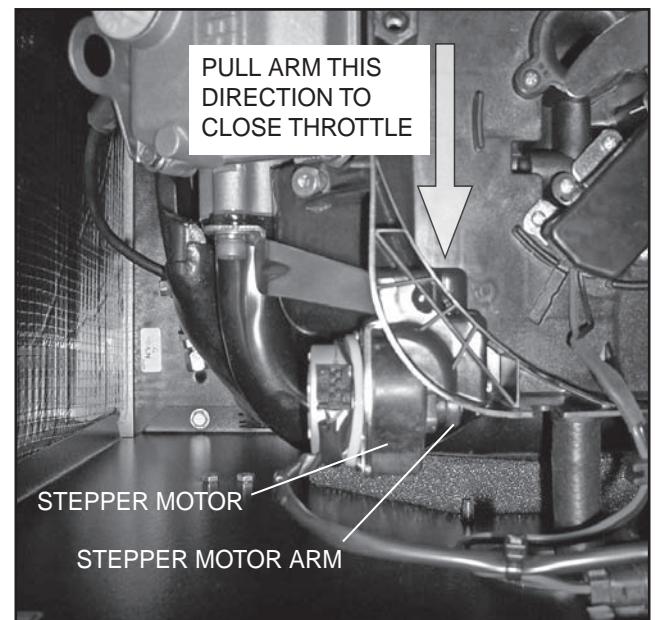

Figure 8. Throttle Positions
3. Physically move the throttle to the closed position by pulling the stepper motor arm towards the idle stop (see Figure 8).